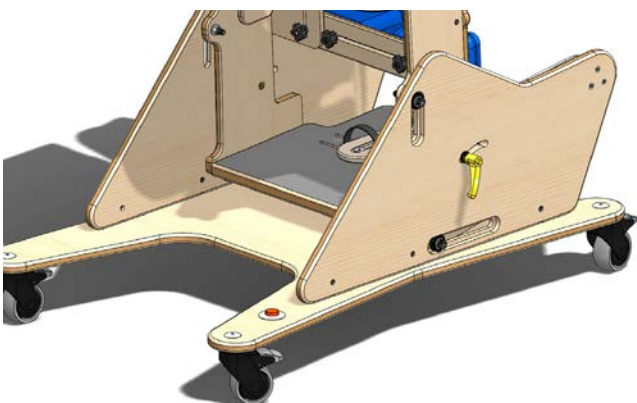

Fig.2
To adjust the angle of the stander, first release the lever locks which are on both sides of the stander Fig.2 (highlighted in yellow).
**CAUTION** - Make sure to re-lock the lever locks (Fig.2)